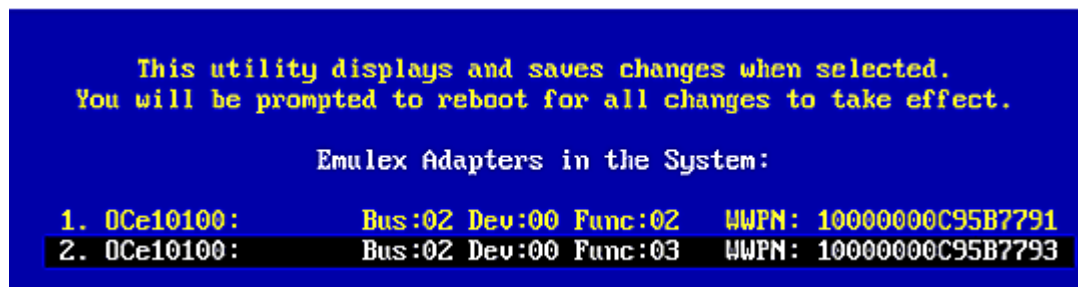

Figure 5-1 Emulex Adapter Listing
1. Turn on the computer and press and hold down <Alt> or <Ctrl> and press <E> immediately (within five seconds) when the Emulex bootup message to start the FCoE BIOS utility is displayed. An adapter listing is displayed (Figure 5-1).